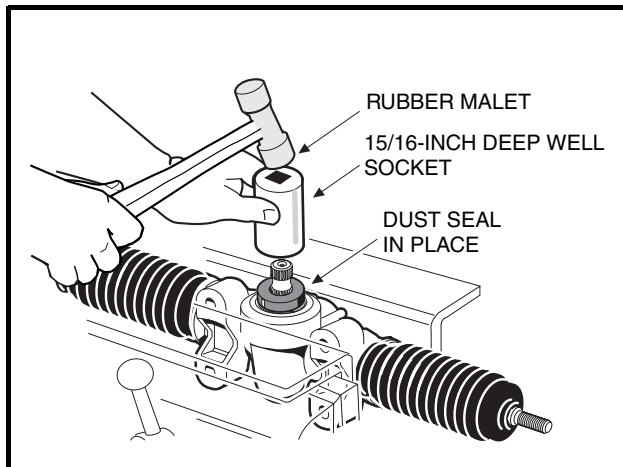

Figure 7-17 Press In Dust Seal
4. Install the snap ring (4).
5. Use a socket to apply pressure evenly, and press in a new dust seal (**Figure 7-17, Page 7-9**).